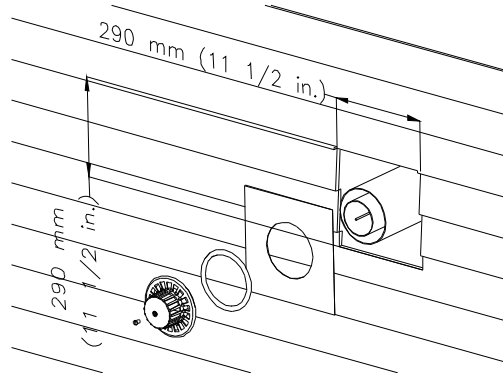

Figure 16
8. Place cap and screw nut "E", until cap leans against the plate. (See figures 16 and 17).